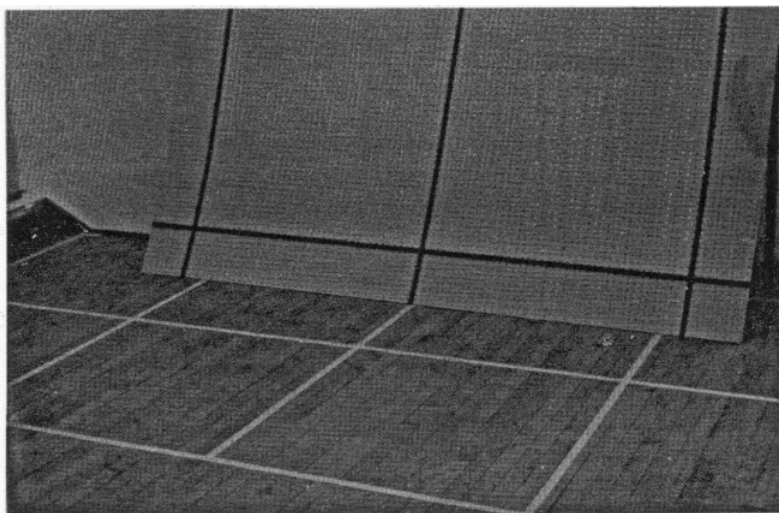

Figure 2. Grid squares are marked on floor with masking tape. Grid squares on pegboard are used to aid the pegboard plotter.
- Place the pegboard flat on the floor or on a table and count two lines of 40 holes in the form of a right angle. The distance between two adjacent holes represents 25 meters, thus 40 holes equal 1,000 meters, or one grid square (fig 2).